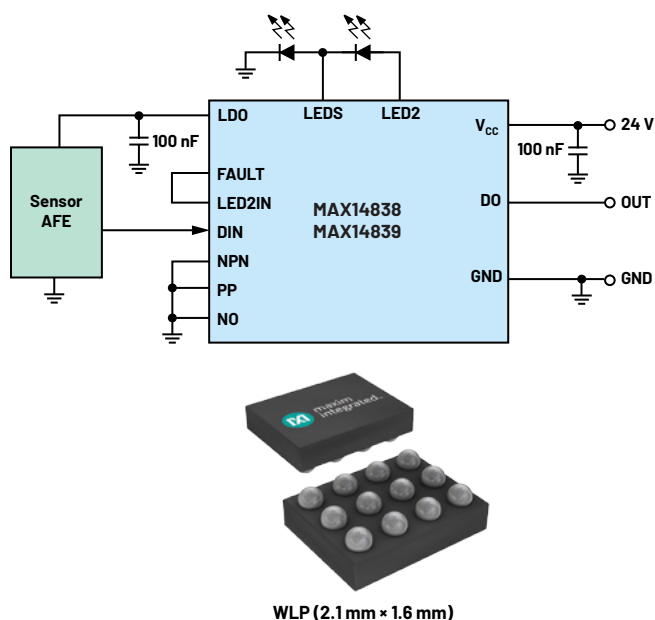

Figure 50. A MAX14838/MAX14839 binary sensor driver.
- ▶ On-Chip 5 V Linear Regulator (MAX14838)/3.3 V Linear Regulator (MAX14839) (Figure 50)